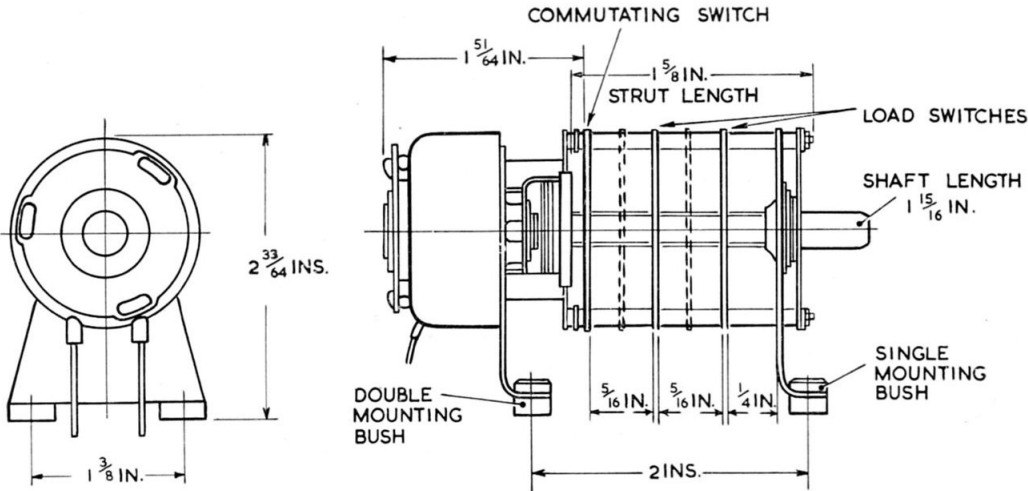
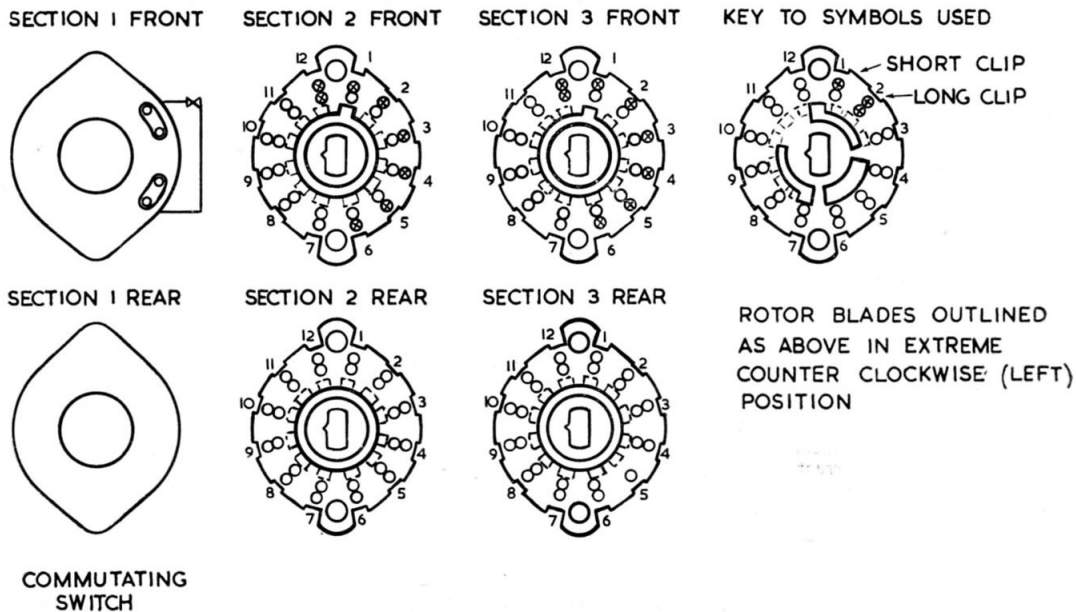

Fig. 1. Stepping relay, Type LX/CSI/10107/DH3
Fig. 2. Switch section contact arrangements
2. This stepping relay (*fig. 1*) incorporates three switch sections, No. 1 being the commutating switch, and No. 2 and 3 the load sections. Each load switch section has a signal-pole, six-position contact arrangement, with positions 1 to 6 operative, as shown in *fig. 2*. The front and rear are as viewed from the solenoid end of the unit.
4. The relay is designed for chassis mounting, with three rubber-bushed flexible mountings, as shown in fig. 1.